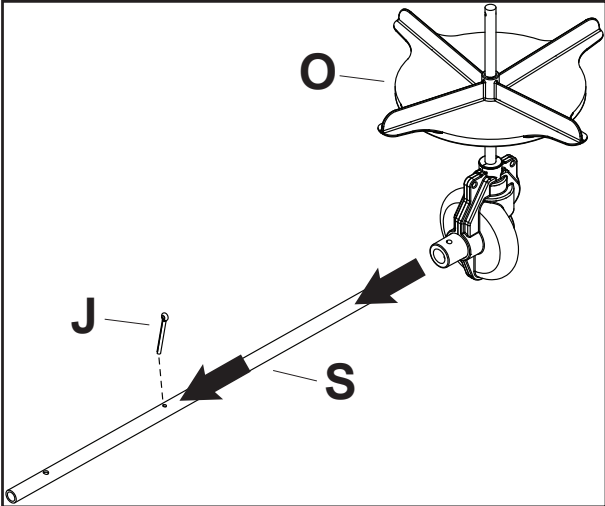

Figure 1
STEP 1 (SEE FIGURE 1): Install the gearbox assembly (O) onto the axle (S) as shown below (**MAKE SURE AXLE IS POSITIONED THE END WITH THE HOLE NEAR THE END IS FACING RIGHT AND GEARBOX HOLE IS FACING LEFT AS SHOWN**). **NOTICE: INSTALLING THE AXLE AND GEARBOX INCORRECTLY WILL DAMAGE YOUR SPREADER!** Next install the 1-1/2" long cotter pin (J) through the gearbox and axle (S). Split the ends of the cotter pin.